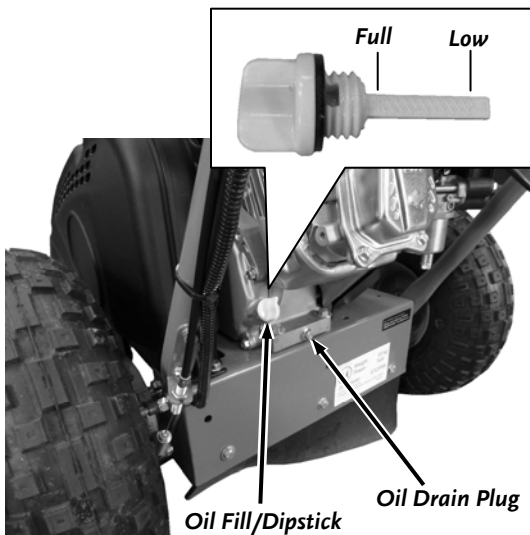

Figure 17
2. Position the machine so the Frame and Engine are level and place a Waste Oil Container under the Oil Drain Plug (**Figure 17**).